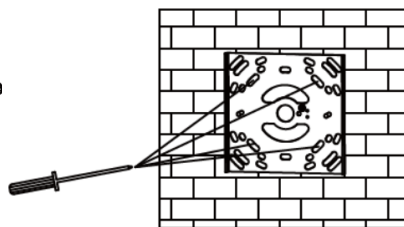

Fig. 1.2
2. Affix the mounting plate to the junction box with the screwdriver (Fig. 1.2).